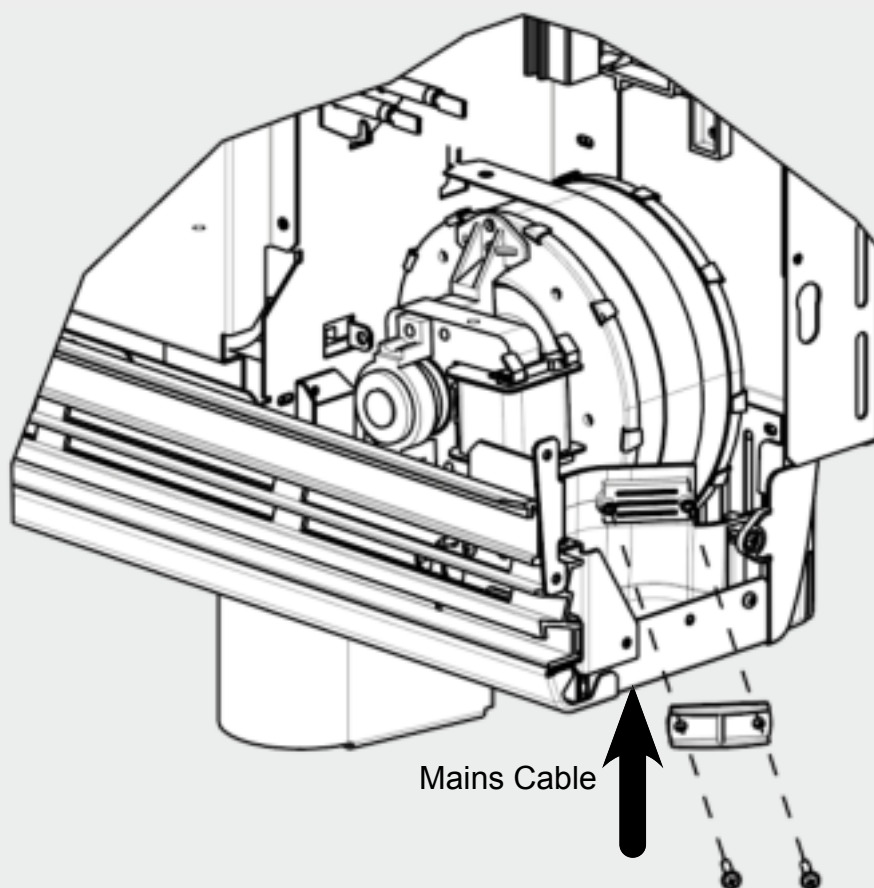

Fig. 10
10. The mains cable entry and terminal block will be visible in the centre of the cavity at the right hand side. Insert the mains cables through the cable gland at the bottom of the heater in readiness for connection (**Fig. 10**).